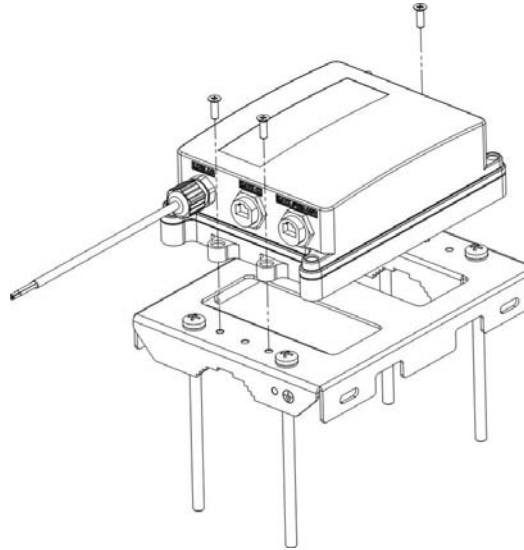

Figure 2
- c. Attach the Midspan to the fore-panel and fasten it using four bolts (see Figure 2).